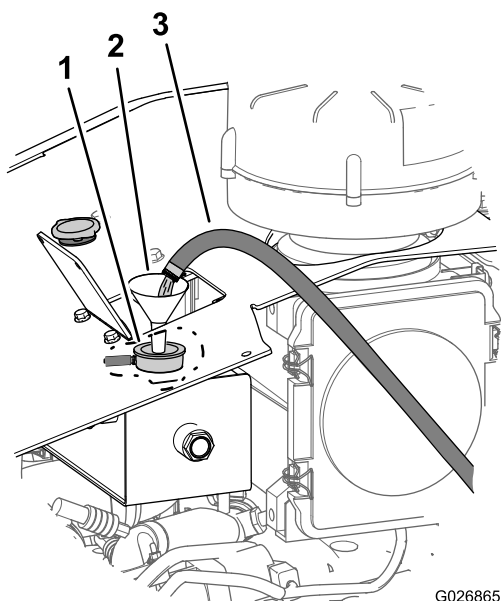

Figure 104
- A. Fill the cooling system with clean water (Figure 104).